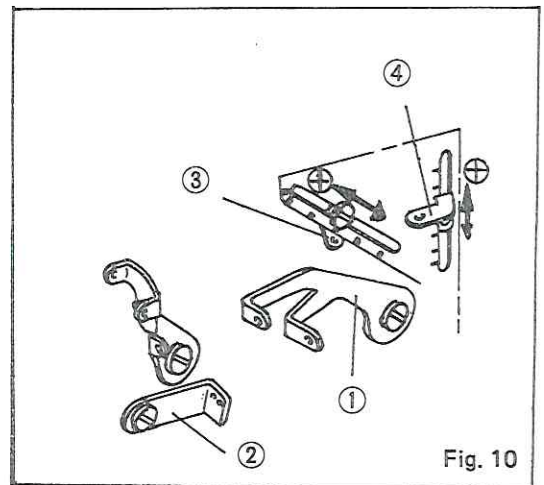

Fig. 10
(3) Looper Thread Control Fig. 10
- For sewing type 512, when Upper Looper is extremely left, push Takeup ① and ② at the position as the chain line (— — —).
- In case of sewing type 503, 504, & 505, when Upper Looper moves to lowest, set Takeup ① and ② at the position as the continuous line (————)
- Adjust Thread Guide ③ as follows.
Control hilo-án cora. Fig. 10
Contrôle du fil du boucleur Fig. 10